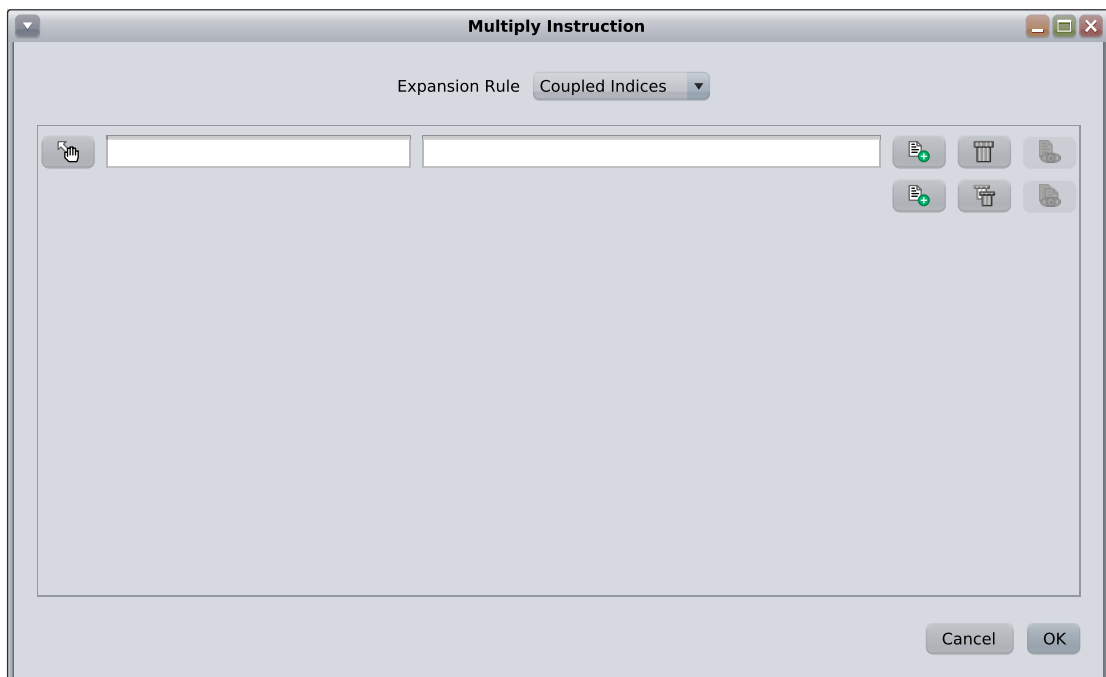

Figure 1.8: Dialog Multiply Instruction
- ▶ A dialog is opened (see [Figure 1.8 \[p 34\]](#)) allowing to specify the intended parameter variations (see Chapter [Using the Multiply Instruction Dialog \[p 35\]](#)). When **OK** is clicked, the dialog is closed, the parameter specifications are evaluated and the new instructions are appended to the current scan program.
The main usage of the Multiply Instruction dialog (see [Figure 1.8 \[▶ 34\]](#)) is to enter/select parameter names and to enter value specifications defining which values should be used for a selected parameter in each of the scans to be created.